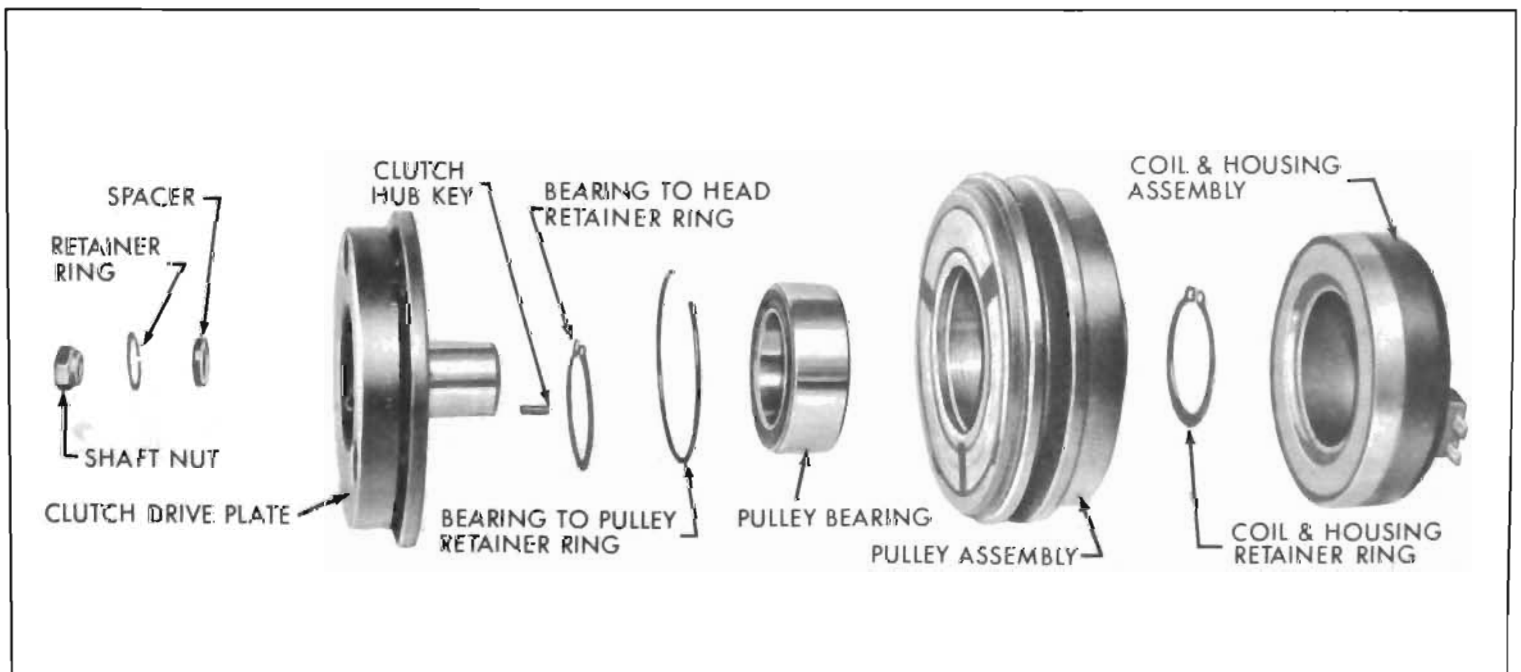

Figure 11-36—Magnetic Clutch Assembly
12. Magnetic Clutch and Pulley Assembly—The magnetic clutch and pulley assembly (see Figure 11-36) together transmit power from the engine crankshaft to the compressor. The magnetic clutch is actuated when the air conditioning clutch compressor switch and the FAN switch located on the air conditioning control assembly